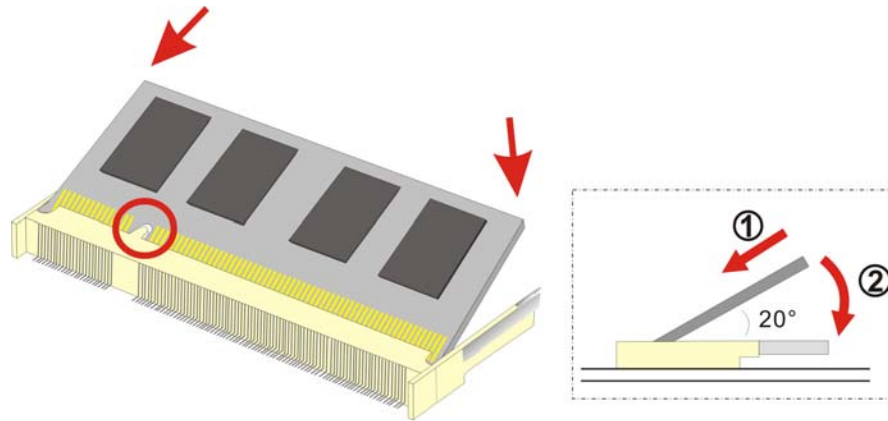

Figure 4-4: DDR2 SO-DIMM Module Installation
- Step 7:** Install the new DDR2 memory module by pushing it into the socket at an angle (**Figure 4-4**).
- Step 8:** Gently pull the spring retainer clips of the SO-DIMM socket out and push the rear of the DDR2 memory module down (**Figure 4-4**).